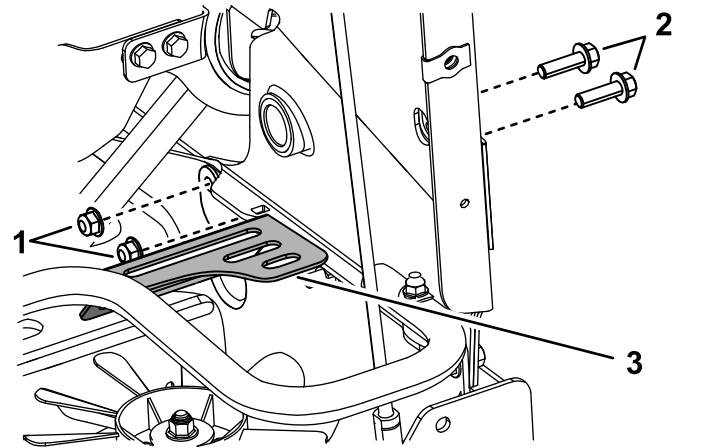

Figure 4
2. Remove and retain the 2 bolts, 2 nuts, and the right fan guard (Figure 4).